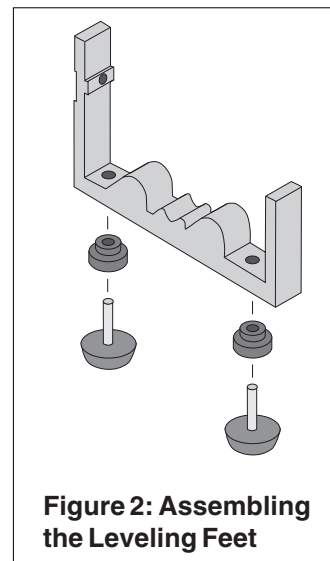

Figure 2: Assembling the Leveling Feet
1. Thread a locking nut onto each of the four long screws (see Figure 2).